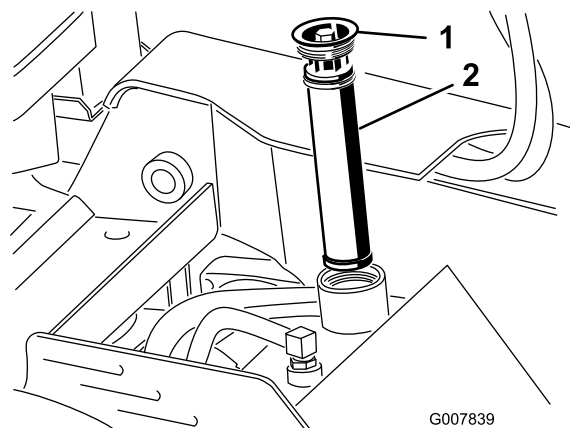

Figure 61
4. Remove and discard the old filter (Figure 61).
5. Install the replacement hydraulic filter and filler cap (Figure 61) and torque the bolt on top to 13 to 15.5 N·m (110 to 140 in-lb).
5. Remove the hydraulic-tank filler cap and filter (Figure 61).
10. Install the hydraulic filter and filler cap (Figure 61) and torque the bolt on top to 13 to 15.5 N·m (110 to 140 in-lb).